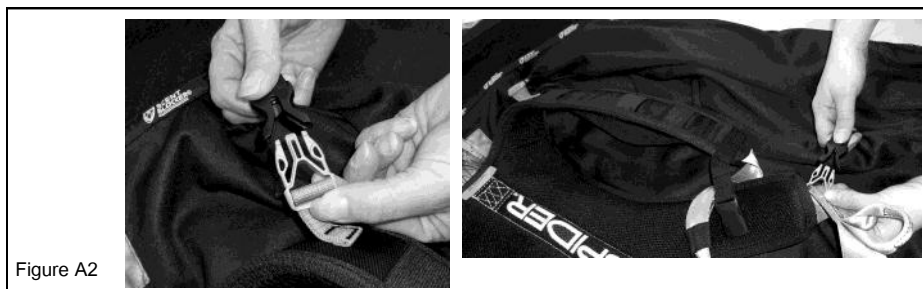

Figure A2
2. Secure and adjust Sternum Strap buckle (Figure A2). The Sternum Strap can be moved up and down for comfort. It can also be tightened and loosened. Excess strap can go into the elastic loop and should be tucked away to not interfere with shooting a bow or gun and getting caught on any other gear.
2. Clip the harness into your compatible ScentBlocker® jacket using the 4 Spider Speed Clips™ (Figure A2).